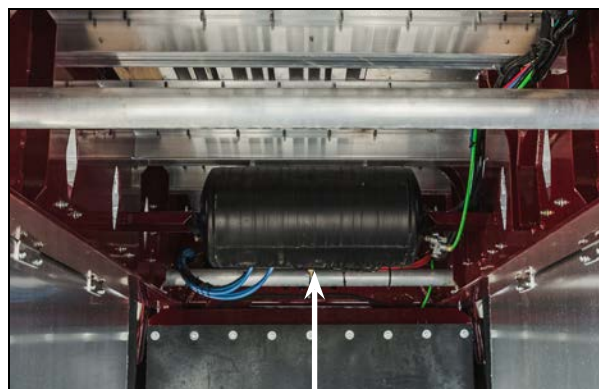

Figure 9 – Petcock (Typical)
5. Drain moisture from air tanks by opening the petcock on each tank and venting a small amount of air. Once no more moisture is seen in the stream of air, close the petcock securely. See Figure 9 below.